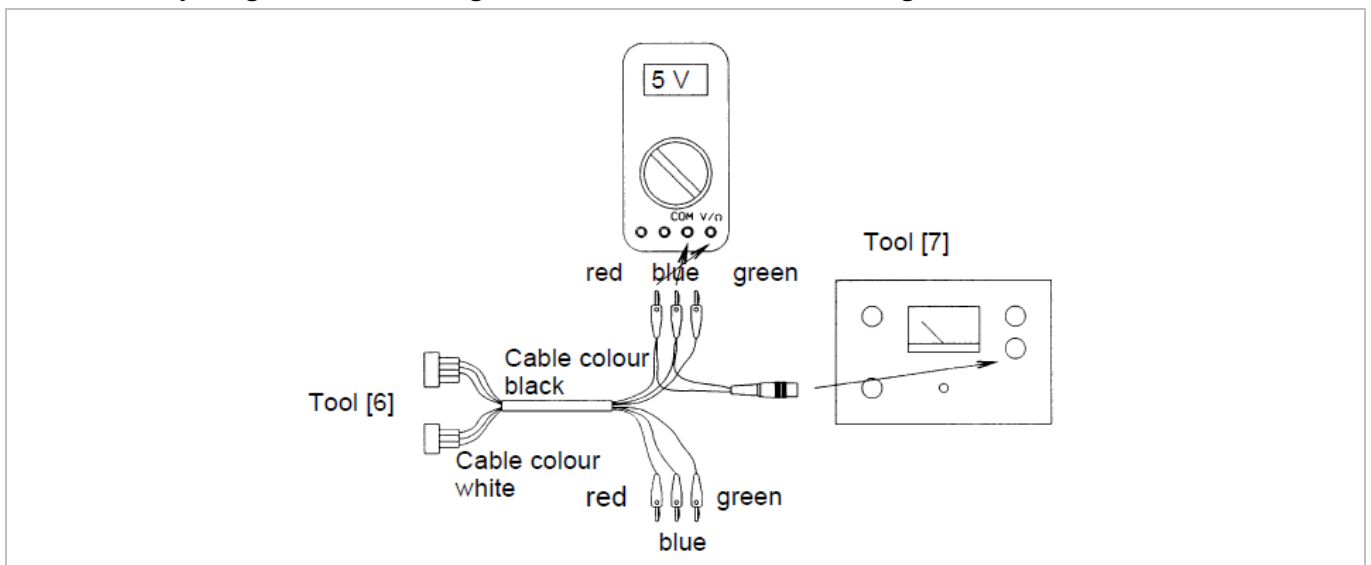

Fig. 19: Setting a voltage of 5V
1. Connect tools [6] and [7] (or use a suitable transformer) and the Multimeter measuring instrument (shown in Fig. 19).